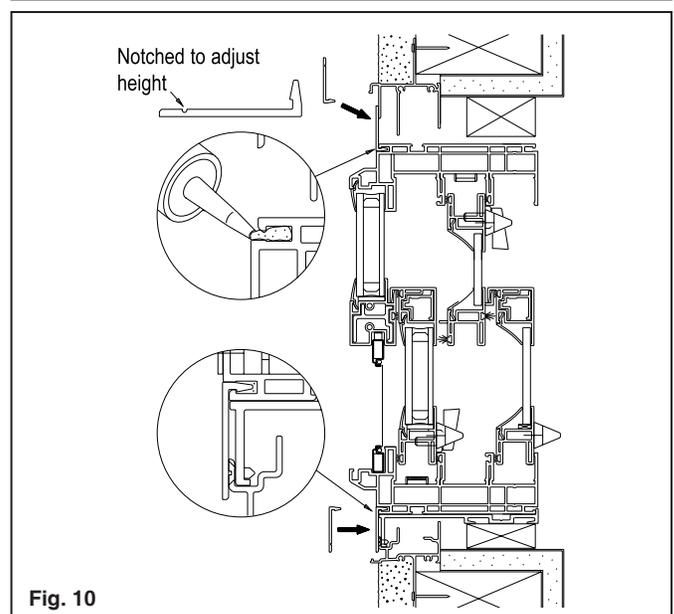
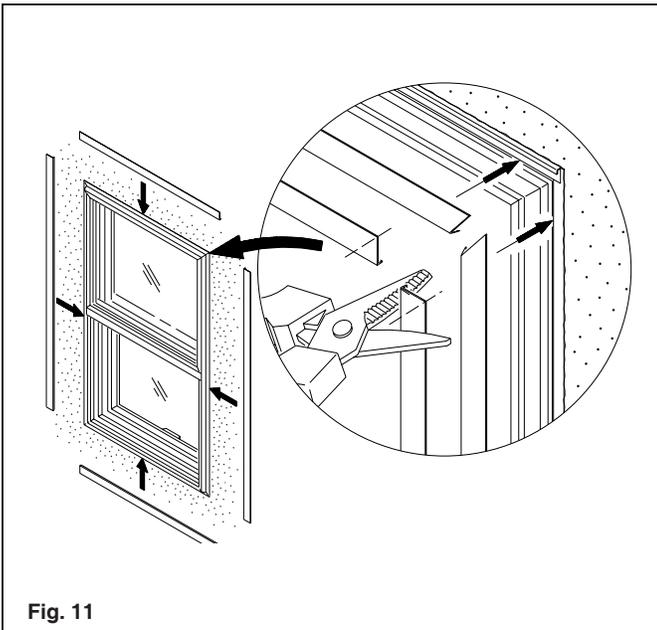

Fig. 10
Fig. 11
A. An optional flat trim material is available to finish off the exterior look. The trim material will be sealed with an appropriate sealant and snapped into the gap that follows the perimeter of the frame. See Fig. 10. Measure the pieces to the frame and with a sharp knife or a heavy scissor, make a 45° cut for a miter fit. Care should be taken not to over cut trim. See Fig. 11.